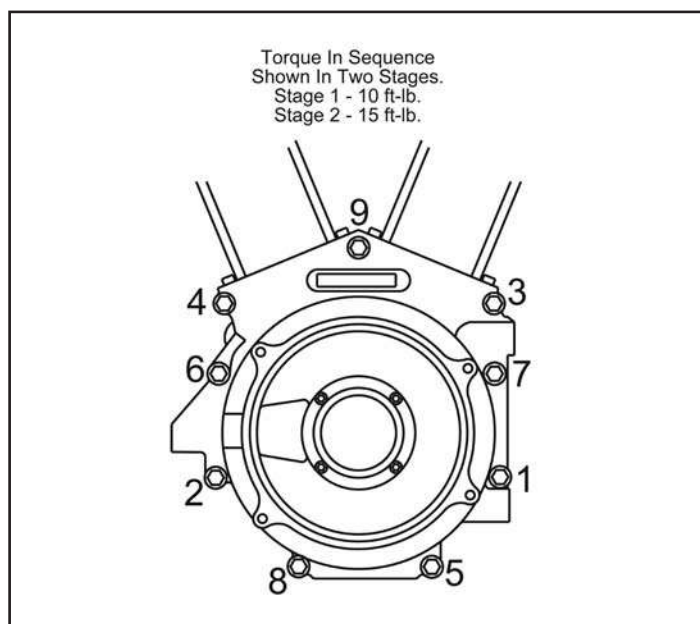

Figure 1
- When assembling crankcases that have been bored to accept big bore cylinders, use S&S torque specifications for crankcase bolts. See Figure 1.
- A. Bolt crankcases together as an assembly. Use special S&S center case bolt with special washers installed in the order shown in **Picture 5**. Torque case bolts in two stages to 10 ft-lb. and finally 15 ft-lb. in the sequence shown in **Figure 1**.
- B. Bolt crankcases together as in assembly. Use special S&S center case bolt with special washers installed in the order shown. Torque case bolts in two stages to 10 ft-lb. and finally 15 ft-lb. in the sequence shown in Figure 1.